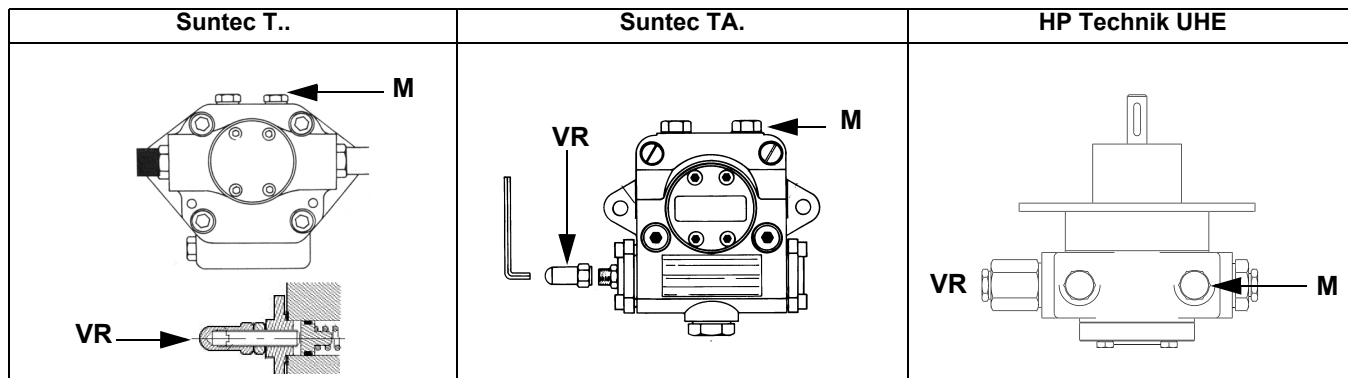

Fig. 7
- 3 bleed the air from the **M** pressure gauge port (Fig. 7) by loosening the cap without removing it, then release the contactor.
- 5 Only if necessary, adjust the supply pressure as follows (see related paragraph); insert a pressure gauge into the port shown on Fig. 8 and act on the pump adjusting screw **VR** (see Fig. 7) as to get the nozzle pressure at 20bar (Monarch or Fluidics nozzles - see page 45-38).
4. VD can be mounted rotated by 180°, fig. 7.